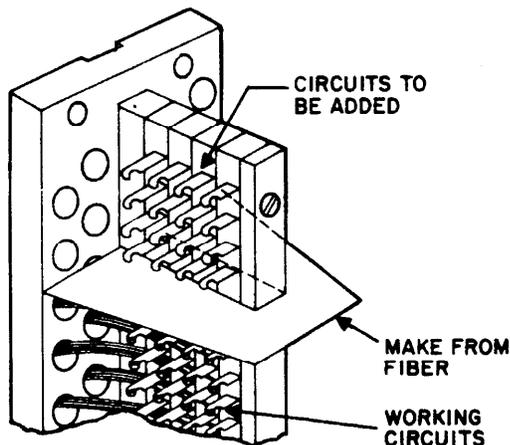

Figure 1. Protecting Working Circuits With Sheet of Fiber.
3.03 All equipment beneath and adjacent to a work location is to be protected from falling solder and wire ends. The use of a connecting bag and an installers mat to catch the falling particles and scrap wire ends is essential. When connecting additions to existing terminal blocks containing working circuits and/or previously connected conductors, it is recommended that a sheet of non-conductive fiber be used to protect the previously made connections. See Figure 1 for an example of this protective measure.